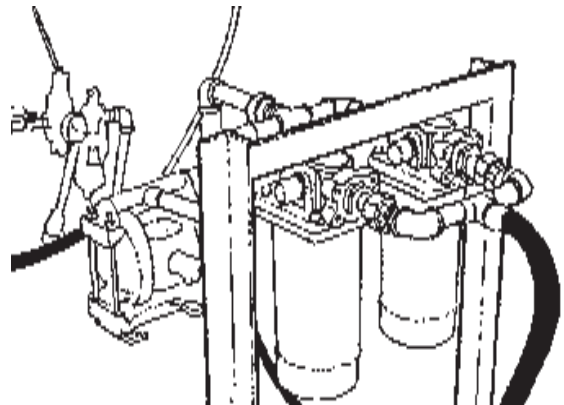

Figure 30
3. Avoid Hydraulic Contamination by filtering the Hydraulic Oil while filling the Hydraulic Tank. Filter buggies or carts are commercially available for Hydraulic system cleanup and Oil transfer. These consist of high capacity filter, a Circulating Pump, a Drive Motor and hoses for connecting to the units hydraulic system. When adding Oil always use Clean new Oil from a sealed container, If you suspect the Oil of being contaminated don't use it. (See Figure 30 & 31). It is best to always use a filter system when adding even new oil.